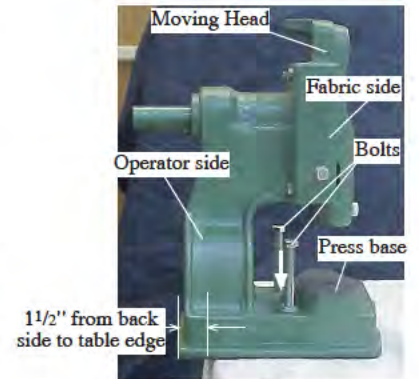

Figure 1. Side view
2. Place your hand press at the edge of your worktable. To clear space for the Handle, the fabric side of the press should face the inside of your table and the operator side of the press should be hanging 1 1/2 inch off the edge of your table as shown in Figure 1.